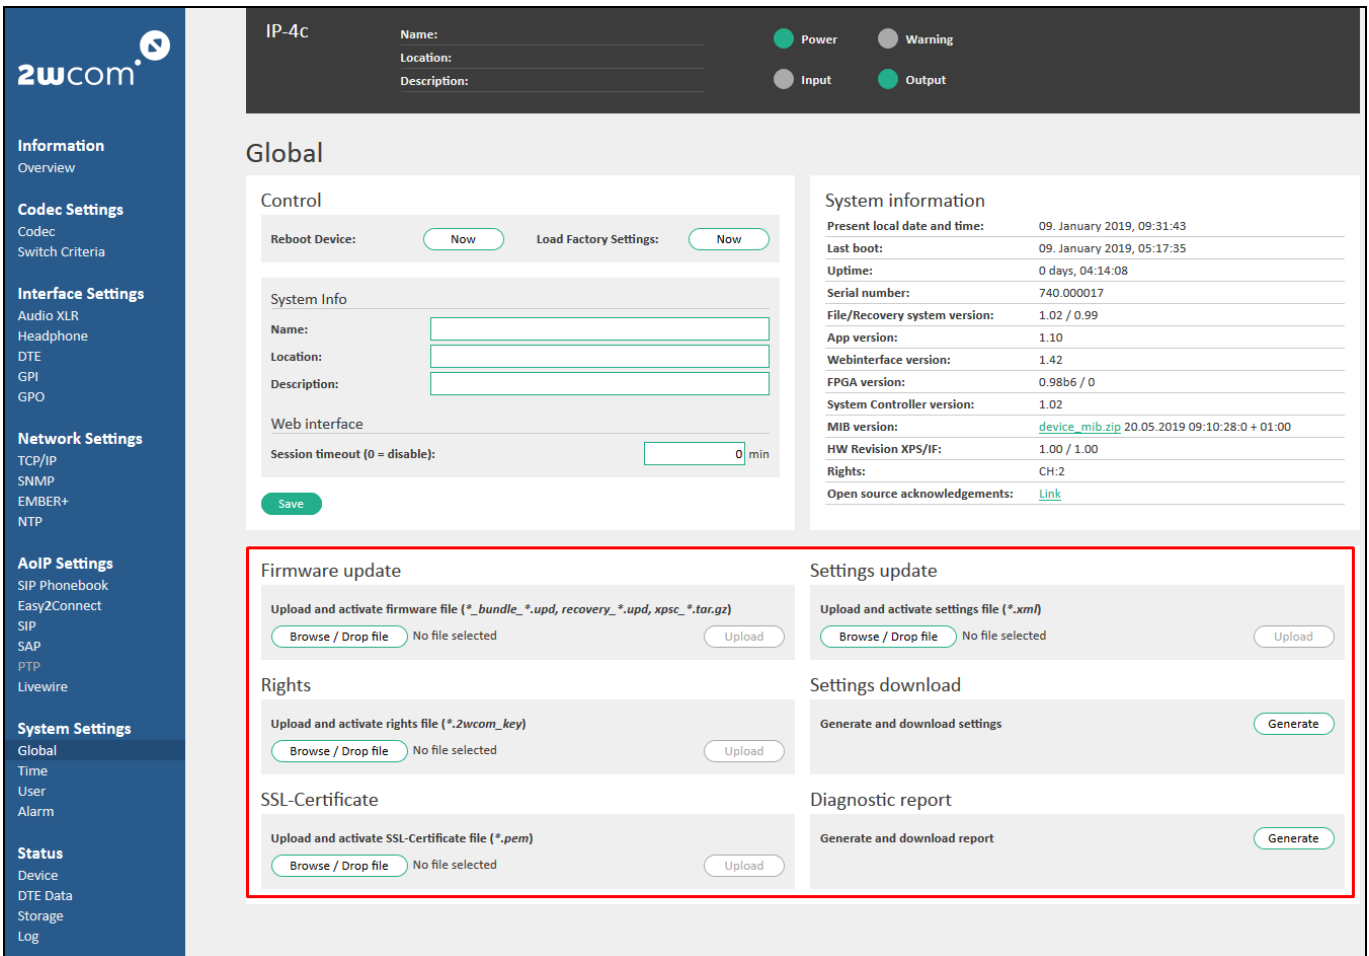

Figure 91: System Settings - Global
1. Open the window *Global* under **System Settings**→**Global** (see Figure 91 on page 103).
2. Click the Browse button in the **Rights** field (see Figure 91 on page 103).
- ⇒ You can view the active rights in the same menu in the “System information” block in the “Rights” field (see Figure 91).
2. Click the Browse button in the **Settings update** field (see Figure 91 on page 103). The “Open file” dialog of your system software will be displayed.
2. Click the “Generate” button in the **Settings download** field to start the generation of a settings file (see #4 in Figure 91 on page 103).
2. Click the Browse button in the **Firmware update** field (see Figure 91 on page 103). The “Open file” dialog of your system software will be displayed.